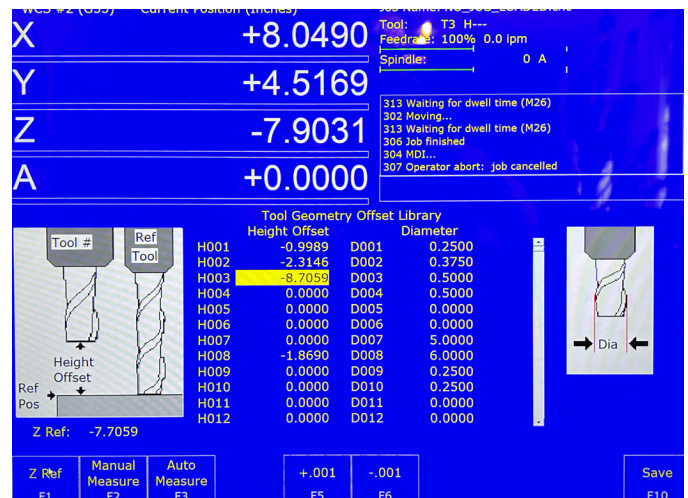

FIGURE 3
3. In this example, we are going to change parameter 003. In the original default settings, parameter 003 is set to (0.0000) as shown in Figure 2. Parameter 003 is (Modal Tool and Height Offset Control). When this parameter is set to 0.0000, your machine is set up without limit switches to home your machine and set machine zeros. You will use a “Reference Tool” to set your Z Reference and part Zero Position. The “Offset Lib.” page will look like the picture below (see Figure 3).